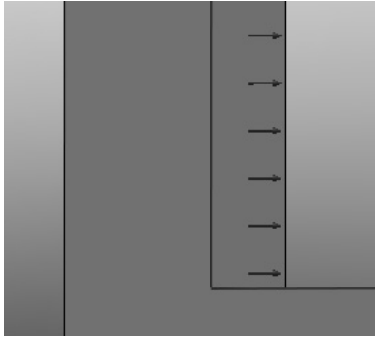
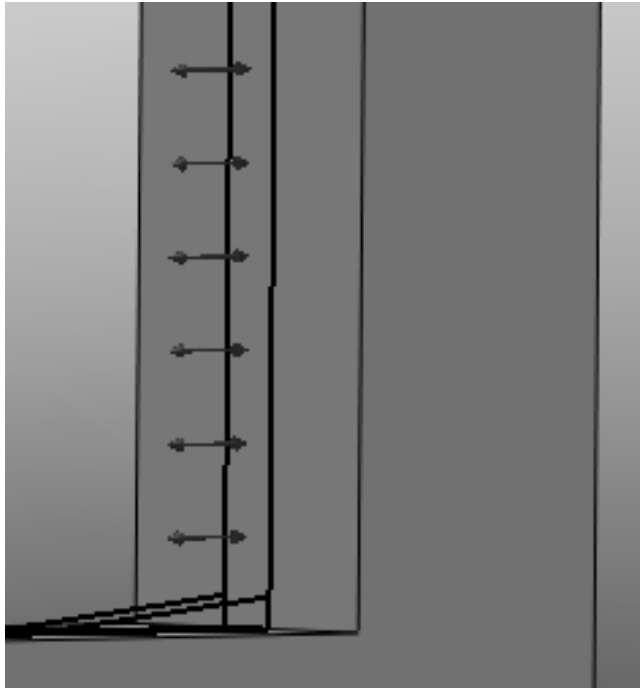

Figure 2.17d) Inlet velocity boundary condition indicated by arrows
Figure 2.18b) Outlet static pressure boundary condition
18. Red arrows pointing in the flow direction appears indicating the inlet velocity boundary condition, see figure 2.17d). Right click in the graphics window and select **Zoom to Fit**. Right click again in the graphics window and select  **Rotate View** once again to rotate the part so that the inner right surface is visible in the graphics window. Right click and click on  **Select**. Right click on  **Boundary Conditions** in the **Flow Simulation analysis tree** and select **Insert Boundary Condition....** Click on the end surface on the outlet boundary. Click on the **Pressure Openings** button in the **Type** portion of the **Boundary Condition** window and select **Static Pressure**. Click OK  to exit the window. If you zoom in on the outlet boundary you will see blue arrows indicating the static pressure boundary condition, see figure 2.18b).